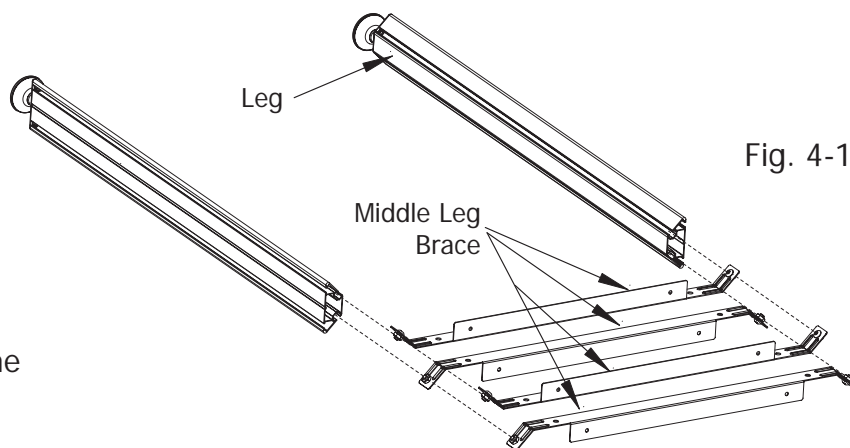

Fig. 4-1
4-1: Slide the Square Nuts pre-installed in the four (4) Middle Leg Braces onto the "T" Slots in the two (2) remaining legs as shown in Fig. 4-1.